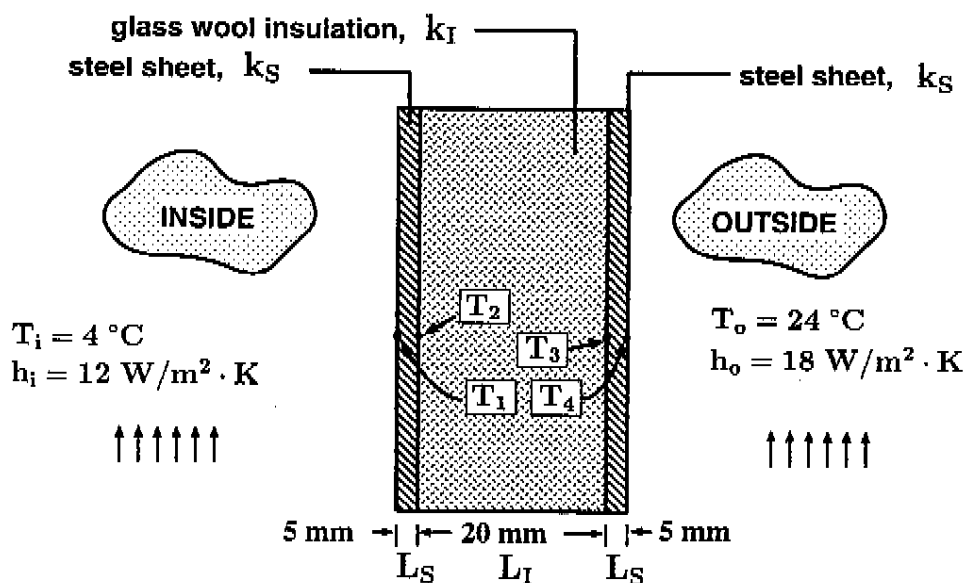

Figure 2: Schematic diagram for problem 5.
5. The interior of a refrigerator is to be maintained at 4°C . The walls of the refrigerator are constructed of two steel sheets 5 [mm] thick with 2 [cm] of glass-wool insulation between them, as shown schematically in Figure 2. The inside and outside heat transfer coefficients are $12.0\text{ [W/m}^2\cdot\text{K]}$ and $18.0\text{ [W/m}^2\cdot\text{K]}$, respectively. The thermal conductivities of the steel and the glass-wool insulation are known to be $k_S=45.0\text{ [W/m}\cdot\text{K]}$ and $k_I=0.040\text{ [W/m}\cdot\text{K]}$, respectively. For the purposes of this problem, the total surface area of the refrigerator walls may be taken as $4.50\text{ [m}^2]$. The kitchen ambient temperature is 24°C .